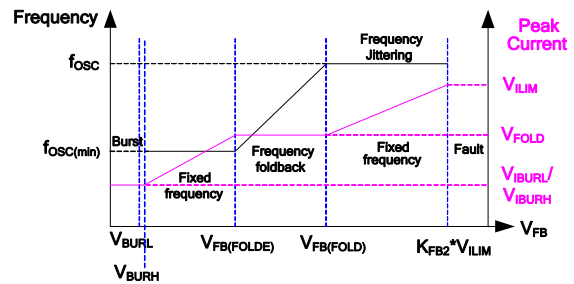

**Figure 3: Frequency Jittering**
An internal capacitor is charged with a controlled current source, which is fixed when FB is greater than 2V, and its voltage is compared with the TIMER voltage ( $V_{TIMER}$ ).  $V_{TIMER}$  is a triangular wave between 2.8V and 3.2V with a charging/discharging current (see Figure 3). The switching frequency can be calculated using Equation (1):